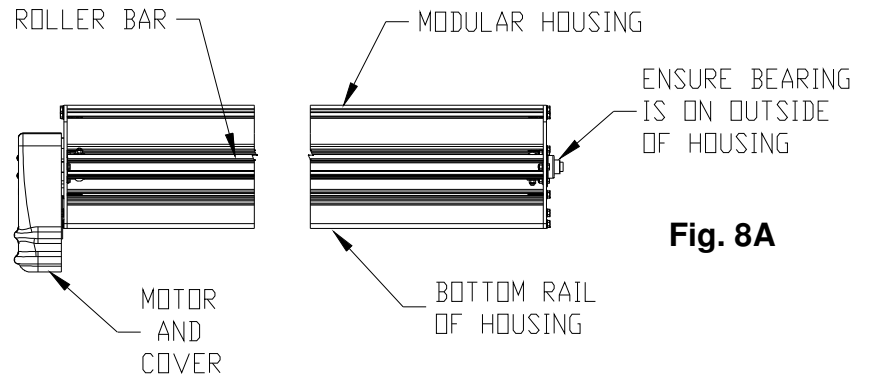

Fig. 8A
1. Mount the housing to the truck by welding or bolting bottom rail (see fig 8A) of housing to cab shield or other suitable location on truck.